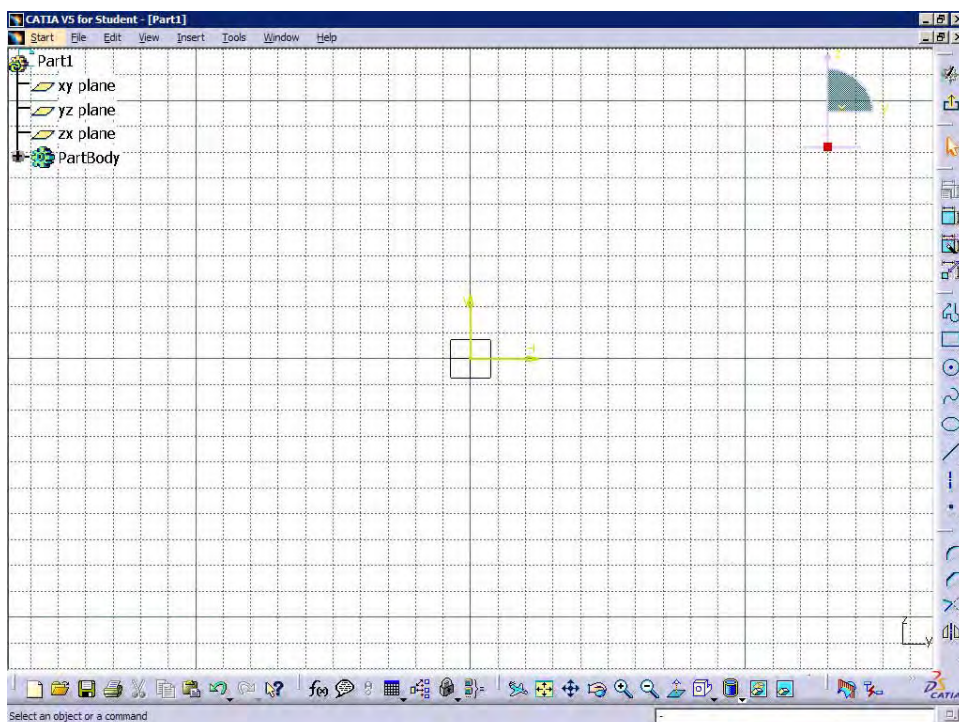

Figure 1-34 **Sketcher** workbench screen
4. Choose the **Sketcher** button from the **Sketcher** toolbar and then select the **YZ** plane as the sketching plane, to invoke the **Sketcher** workbench. The screen that is displayed by invoking the **Sketcher** workbench, is shown in Figure 1-34.